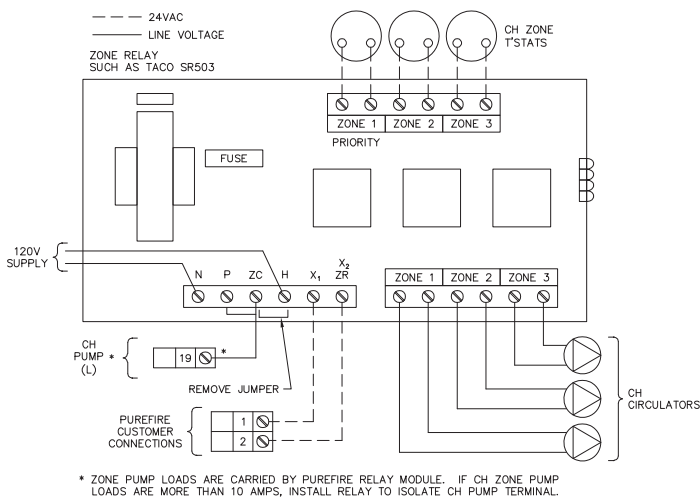

Figure 7.3: Typical Zone Circulator Relay Wiring
1. Wiring for a typical circulator zone panel is shown in figure 7.3.